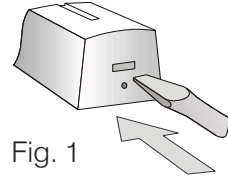

Fig. 1
1. Open the detector cover by pressing the tab in (Fig. 1).